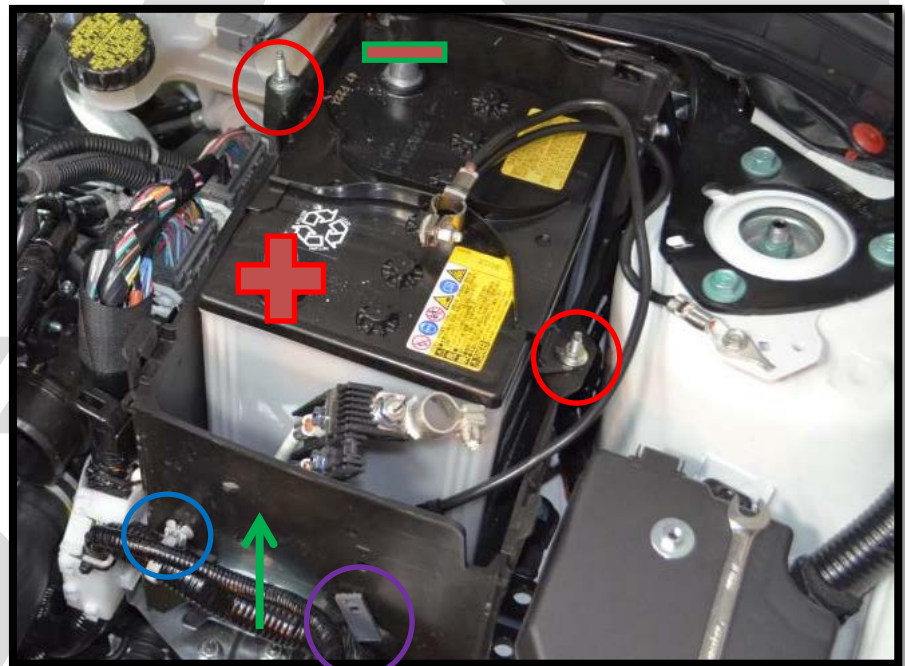

Figure 1c
- d) **Disconnect the battery terminals,** use a 10mm wrench starting with negative first, then Positive. Positive and Negative shown. (Figure 1c)
- e) **Remove the factory battery tie down bracket.** Remove the two 10mm nuts, and pull the bracket off the battery. (Red Circles Figure 1c)
- f) **Remove the front battery box panel.** Remove the MAF wiring harness clip (Blue Circle Figure 1c), and negative battery cable clip (Purple Circle Figure 1c), from the front battery box panel using needle nose pliers to compress the clips on the inside of the battery box.. Then slide the panel upwards and remove it. (Green Arrow in Figure 1c)